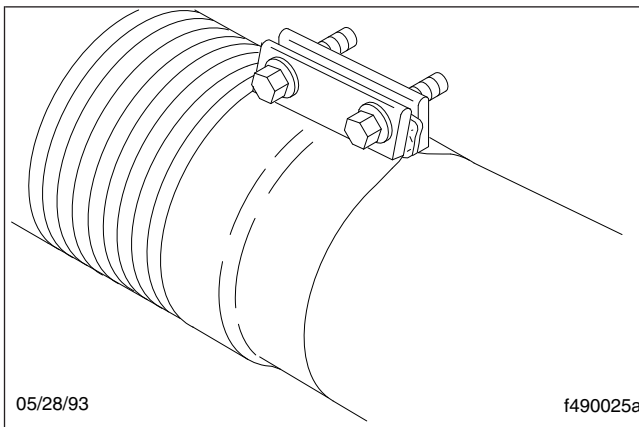

Fig. 3, Donaldson Sealclamp Wide-Band Exhaust Clamp
8. Check for leakage at all wide-band exhaust clamps. See **Fig. 3**.